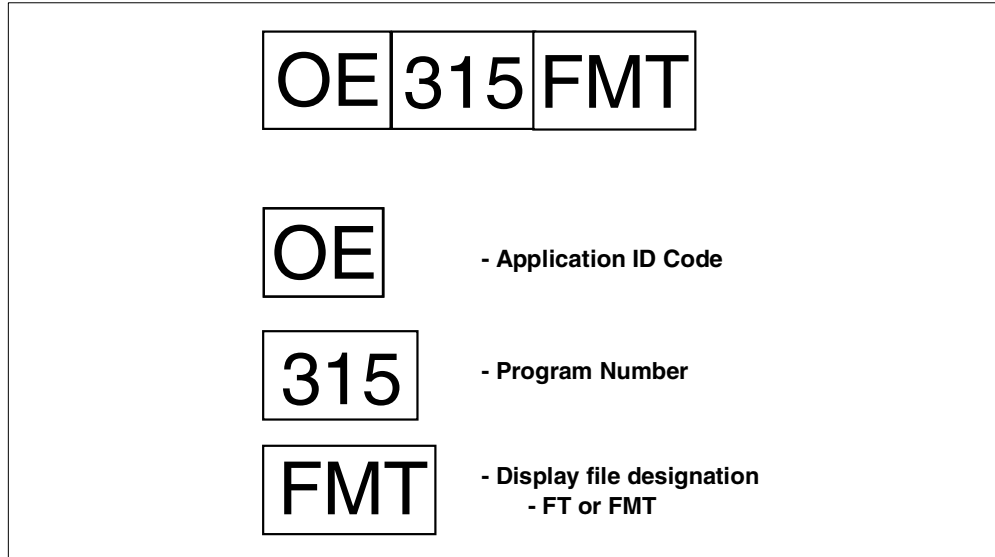

Figure 229. Display file naming convention for data files
- **Display file:** Figure 229 on page 392 illustrates the naming convention for display files.